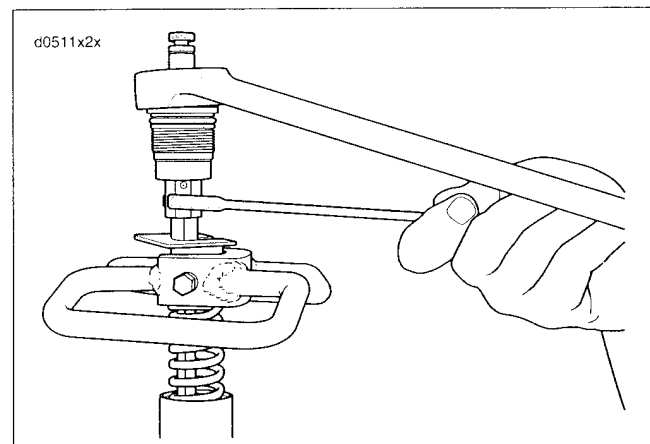

Figure 2-89. Removing Fork Bolt
5. See Figure 2-89. Hold the fork bolt and compression adjuster. Remove the fork bolt from the compression adjuster. Remove the spring adjuster plate from the fork bolt.